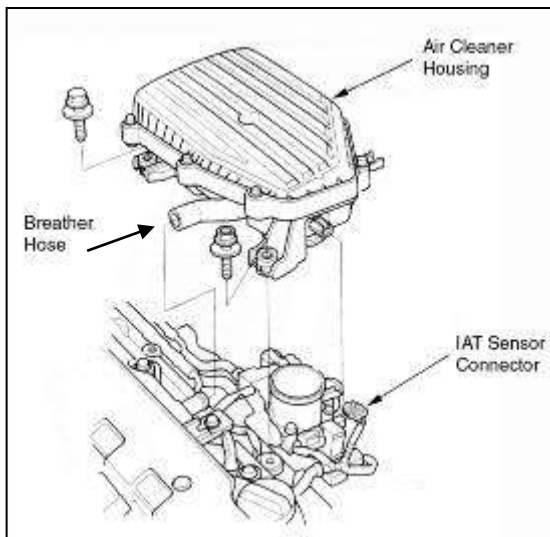

Fig. 5
- f. Remove the IAT sensor connector, and then remove the breather hose. Loosen the hose clamp on the throttle body. Remove the air cleaner housing by loosening the two bolts securing it. **(Fig. 5)**